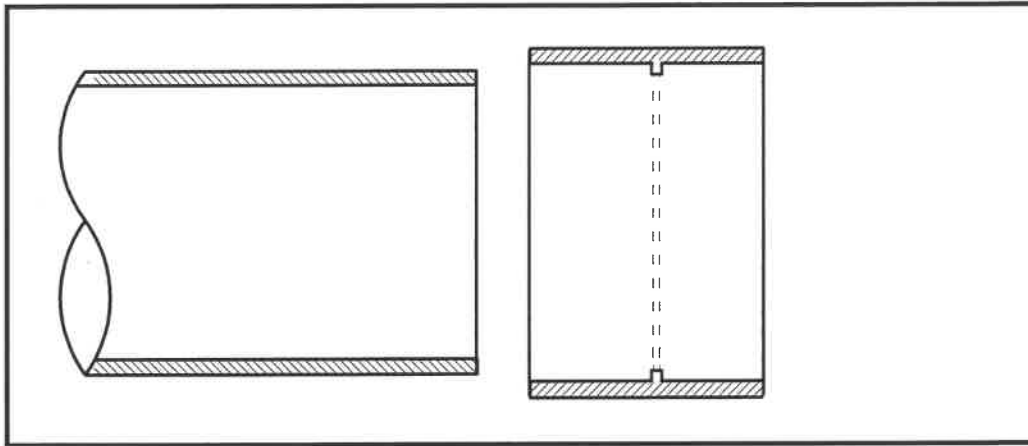

FIGURE 6.3
6.3 FIGURE 6.3 below shows the section through a 110 mm diameter PVC pipe and a 110 mm PVC socket.